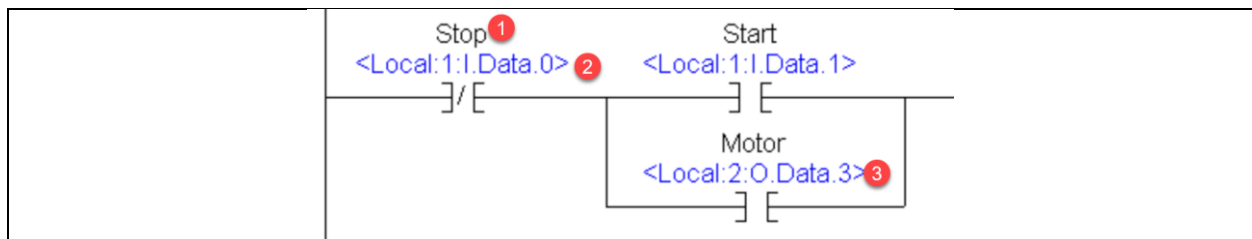

Figure 5. Part of a ladder routine in ControlLogix.
3. The object that is marked with a “1” in Figure 5 would be called a(n):
4. The object that is marked with a “2” in Figure 5 would be called a(n):